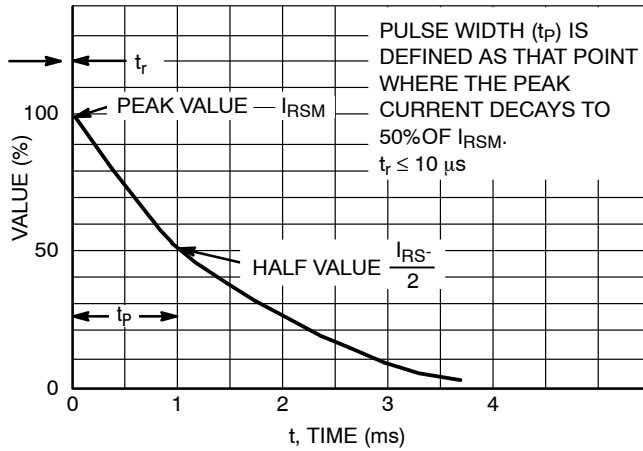

Figure 1. 10 × 1000 μ s Pulse Waveform
- Peak Power: 24 W @ 1.0 ms (Unidirectional), per Figure 1
2. Non-repetitive pulse per Figure 1.